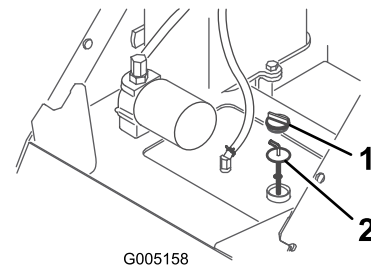

Figure 35
4. Clean the area around the filler neck of the hydraulic tank (Figure 35).
5. Remove the filler-neck cap and check the fluid level on the dipstick (Figure 35).